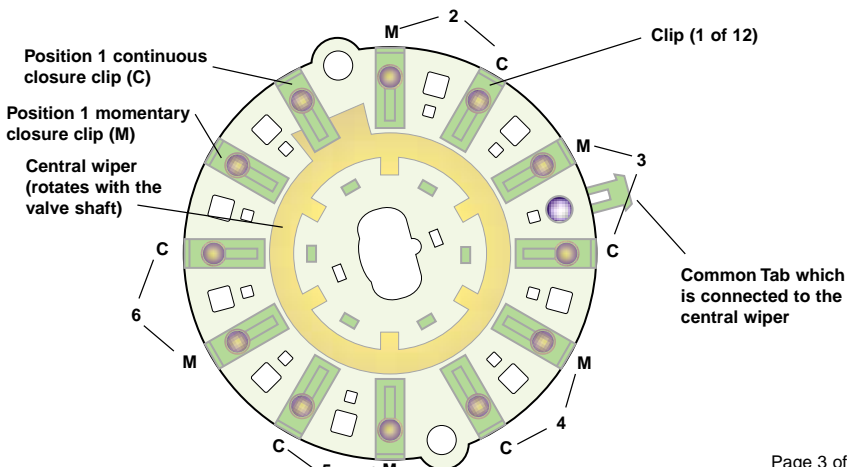

Fig. 6. Detailed view of position sensing wafer.
The position sensing switch is a wafer switch (Figure 6) attached underneath the numbered panel indicating the valve's position. The switch is rated for 1/2 amp at 110/VDC or 1 amp at 24/VDC. There are 12 stationary clips and a central wiper contact. The wiper contact rotates with the valve shaft. One electrical lead (wire from your instrument) is always connected to this central wiper contact.
- Orient the wafer as illustrated in Figure 6. The central wiper orientation is not important.
- Two clips correspond to each of the positions of the valve. See Figure 6. One clip is used for continuous closure communication and the other clip is used for momentary closure communication (communication option depends on your instrument).